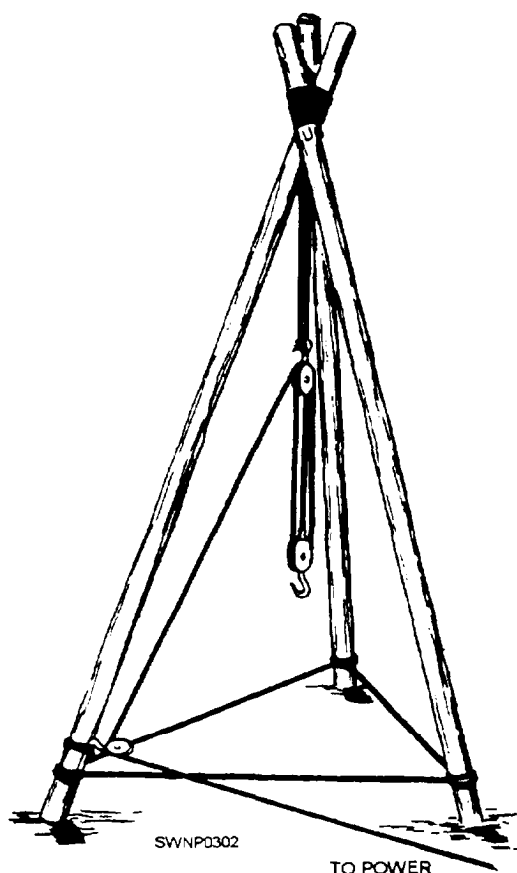

Figure 6-55.—Tripod assembled for use.
2. *Erecting.* The legs of a tripod in its final position should be spread so that each leg is equidistant (fig. 6-55) from the others. This spread should not be less than one half nor more than two thirds of the length of the legs. Chain, rope, or boards should be used to hold the legs in this position. A leading block for the fall line of the tackle can be lashed to one of the legs. The procedure is as follows: